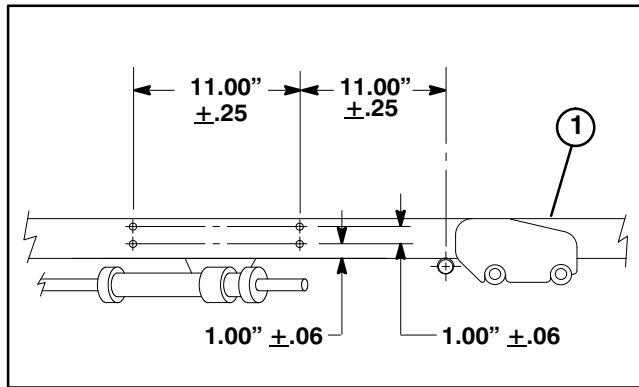

Figure 3
14. Loosely secure flangettes w/bearing to right inside of castor fork with (3) capscrews, locknuts, and a bearing tab. Grease fitting must be in downward position on flange. Tighten motor capscrews to 85 ft-lbs and flange capscrews to 30 ft-lbs.
16. Insert castor fork into traction unit frame. Be sure to use (2) steering washers below and (1) washer above frame bearings.
20. Lower tank base and re-secure with (3) capscrews and flat washers.
21. Secure cylinder rod end to castor fork with (2) jam nuts. Torque each nut to 65–85 ft–lbs.
22. Using dimensions shown in figure 3, locate, mark and drill (4) .281 holes into R.H. frame tube.